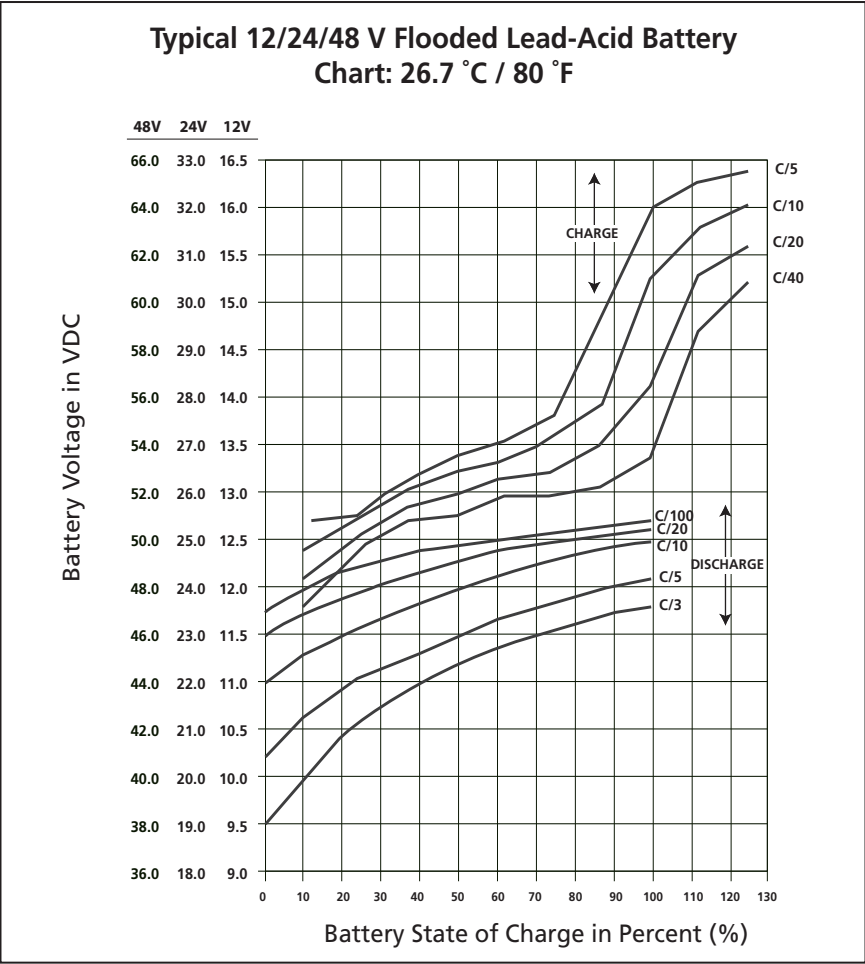

Fig 7.1 Charging/Discharging Curves for Typical 12V/24V/48 Flooded Lead-Acid Battery
7.7.1 Fig 7.1 shows examples of State of Charge/Discharge Curves for different C-rates for typical 12 V / 24 V / 48 V lead-acid Battery at 26.7 °C / 80 °F. These curves are used to determine the State of Charge/Discharge of the battery based on its terminal voltage.
7.7.2 Example of Determining State of Charge (using Fig 7.1) when Charging 12 V, 100 Ah Battery at C-rate of 0.1C or C/10 or 10 A: Refer to Charge Curve marked C\10 of the upper 4 curves marked “CHARGE”. States of Charge at different battery terminal voltages will be: (a) At 15.3 V = 100% charged; (b) At 14.3 V = 90% charged; (c) At 13.5 V = 70% charged; (d) At 12.5 V = 15% charged
7.7.3 Example of Determining State of Discharge (using Fig 7.1) **when Discharging** **12 V, 100 Ah Battery at C-rate of 0.33 C or C/3 or 33.3 A:** Refer to Charge Curve marked C3 of the lower 4 curves marked "DISCHARGE". States of Discharge at different battery terminal voltages will be: [a] At 9.5 V = 100% discharged (0% charged); [b] At 10.4 V = 80% discharged (20% charged); [c] At 11.5 V = 28% discharged (72% charged) and [d] 11.75 V = 0% discharged (100% charged)
The discharge curves in Fig. 7.1 show the % State of Charge versus the terminal voltage of typical Flooded lead-acid Battery under different charge /discharge currents, i.e. "C-rates" and fixed temperature of 26 °C / 80 °F. (Please note that the X-Axis of the curves shows the % of State of Charge. The % of State of Discharge will be 100% - % State of Charge).
As stated earlier at Section 7.10, the buzzer alarm is triggered when the voltage at the DC input terminals of the inverter has dropped to around 10.7 V for a 12 V battery, 21.4 V for a 24 V or 42 V for 48.0 V battery at C-rate discharge current of C/5 Amps. Please note that the terminal voltage relative to a particular of State Discharge decreases with the rise in the value of the discharge current. For example, terminal voltages for a State of Discharge of 80% (State of Charge of 20%) for various discharge currents will be as given at: Table 7.5 (Refer to Fig 7.1 for parameters and values shown in Table 7.5):
Inverters are normally provided with a protection to shut down the output of the inverter if the DC voltage at the input terminals of the inverter drops below a threshold of around 10 V for a 12 V battery, 20 V for 24 V, or 40 V for 48 V battery. Referring to the Discharge Curves given in Fig 7.1, the State of Discharge for various C-rate discharge currents for battery voltage of 10 V / 20 V / 40 V is as follows: (Please note that the X-Axis of the curves shows the % of State of Charge. The % of State of Discharge will be 100% - % State of Charge):